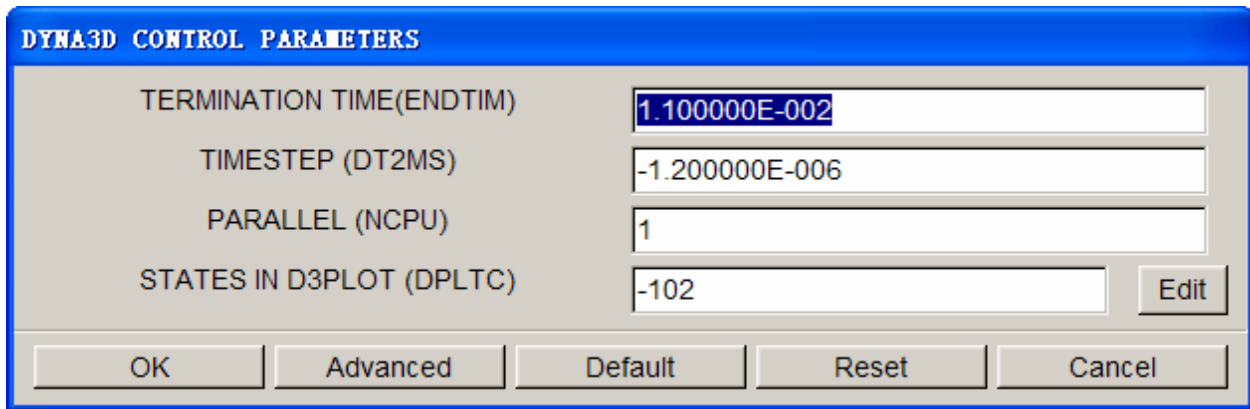

Figure 59: DYNA3D control parameters dialog box
2. Click the **Control Parameters** button in the **Analysis** dialog box to display the DYNA3D CONTROL PARAMETERS dialog box illustrated in Figure 59.